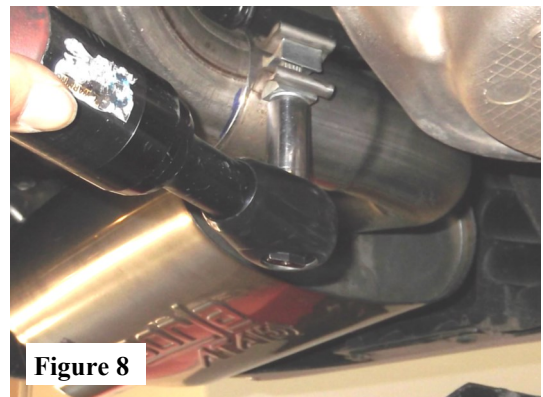

Figure 8
4. Once position has been determined to be correct, tighten the Accuseal™ clamps to 32-35 ft. lbs. (See Fig. 8)